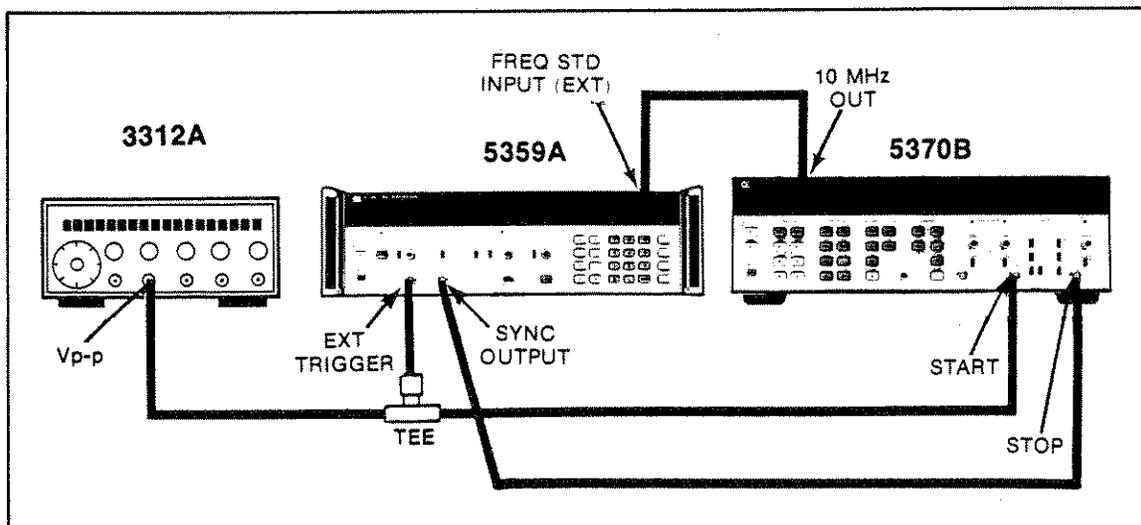

Figure 4-8. Setup For Measuring Insertion Delay
5. Connect the 5359A, 3312A, and 5370B as shown in Figure 4-8.